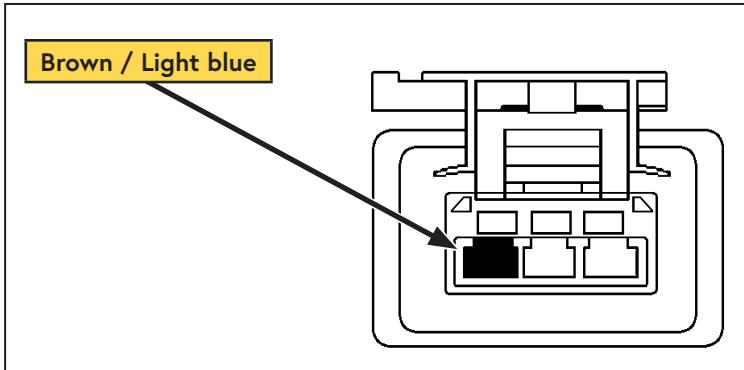

Figure 34 — CKP Sensor
- Splice the white wire from the Throttle Control to the brown wire with light blue stripe that is connected to the CKP sensor plug (Figure 34).